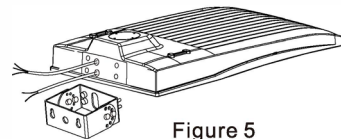

Figure 5
Step 1. Remove the bracket mounting screws on the fixture and run the wires through the bracket (Figure 5)